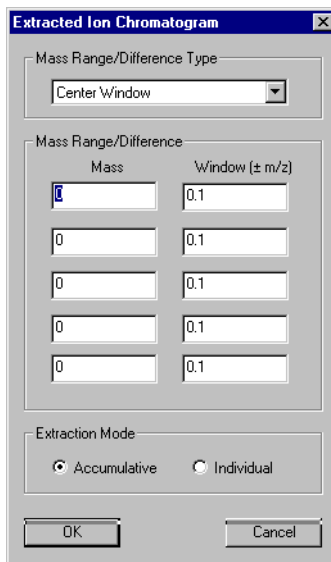

Figure 4-1 Extracted Ion Chromatogram Dialog Box
4. In the Extracted Ion Chromatogram dialog box (Figure 4-1 on page 4-7), select one of the following from the Mass Range/Difference Type drop-down list: